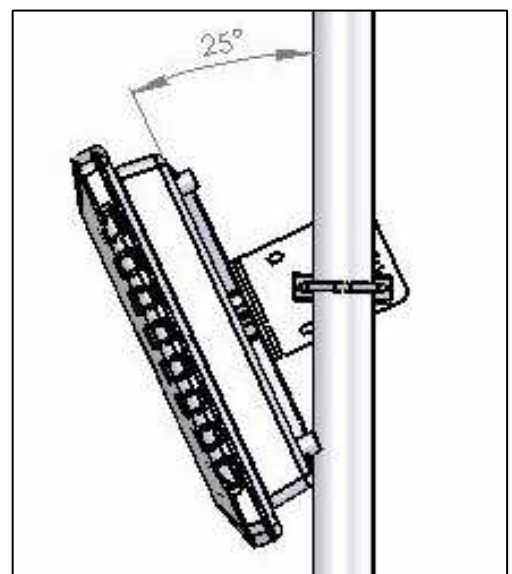

Figure 7. Setting tilt angle
4. The Econo-bracket can be mounted through different holes to achieve the desired tilt angle of the antenna. (see figure 7).